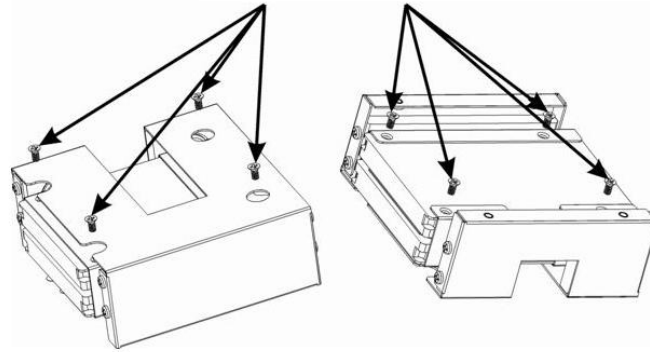

Figure 3-5
5) After put the HDD PCB and HDD to the HDD bracket, please secure the bolts to fix the HDD. See Figure 3-5.